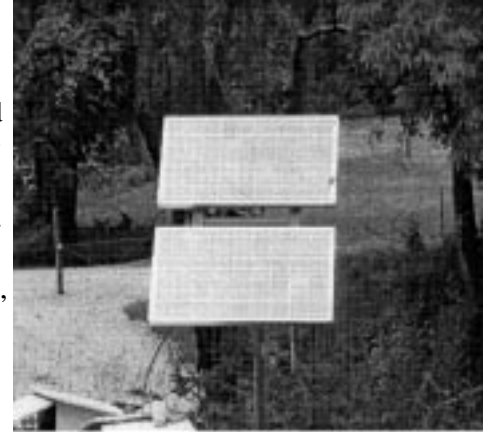

Figure 1. Photovoltaic Panels
A solar-powered water pumping system is made up of two basic components. The first component is the power supply consisting of photovoltaic (PV) panels (Figure 1). The smallest element of a PV panel is the solar cell. Each solar cell has two or more specially prepared layers of semiconductor material that produce direct current (DC) electricity when exposed to light. This DC current is collected by the wiring in the panel. It is then supplied either to a DC pump, which in turn pumps water whenever the sun shines, or stored in batteries for later use by the pump.